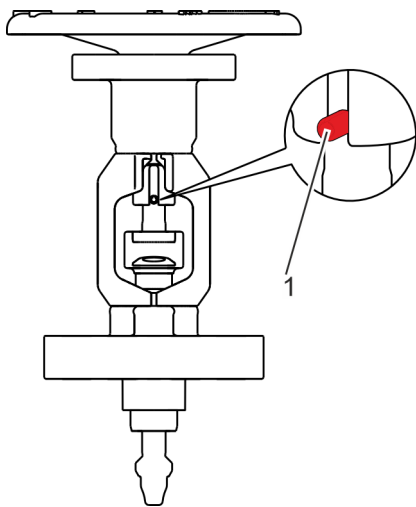

Fig. 24: Removing the anti-twist device
10. ➤ Drive the anti-twist device (Fig. 24/1) out of the stem with the knock-out tool.